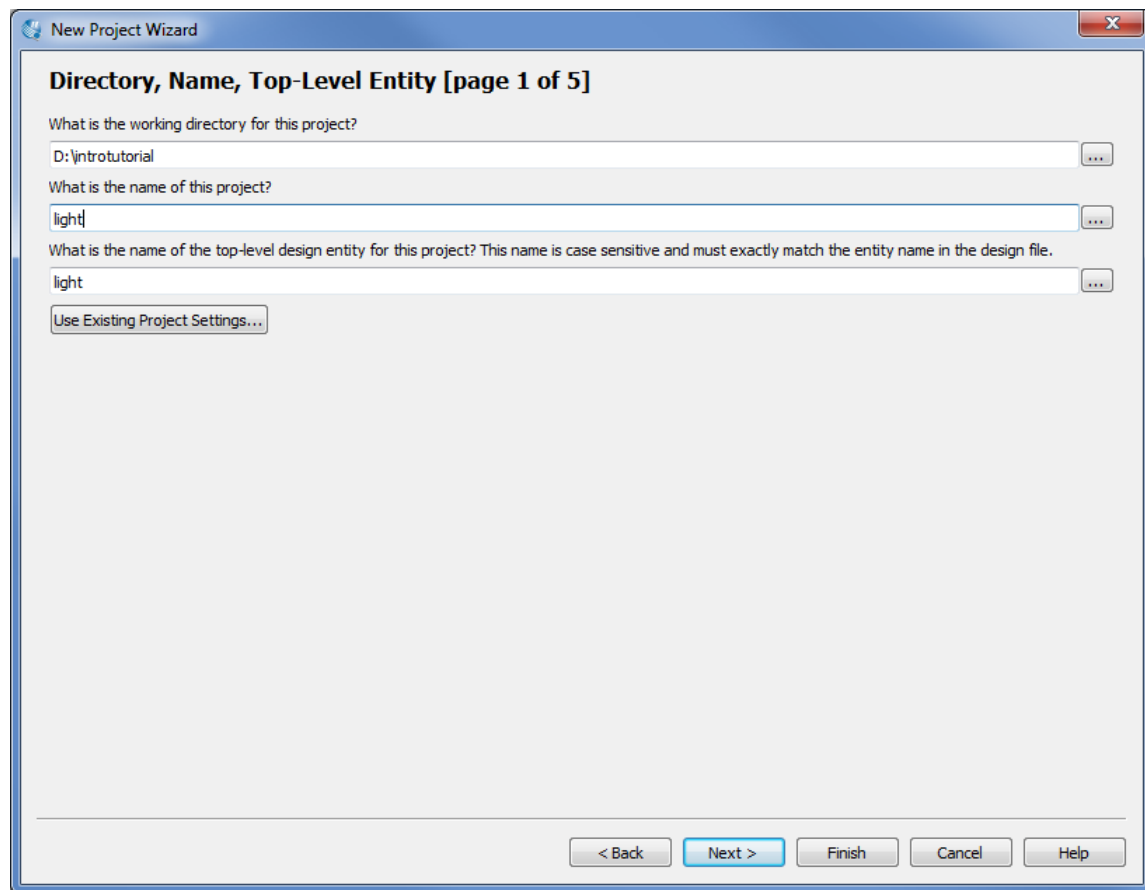
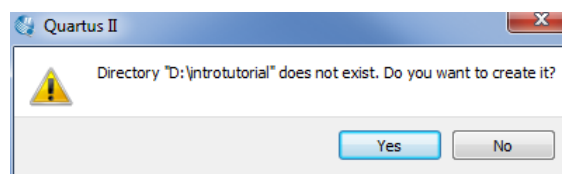
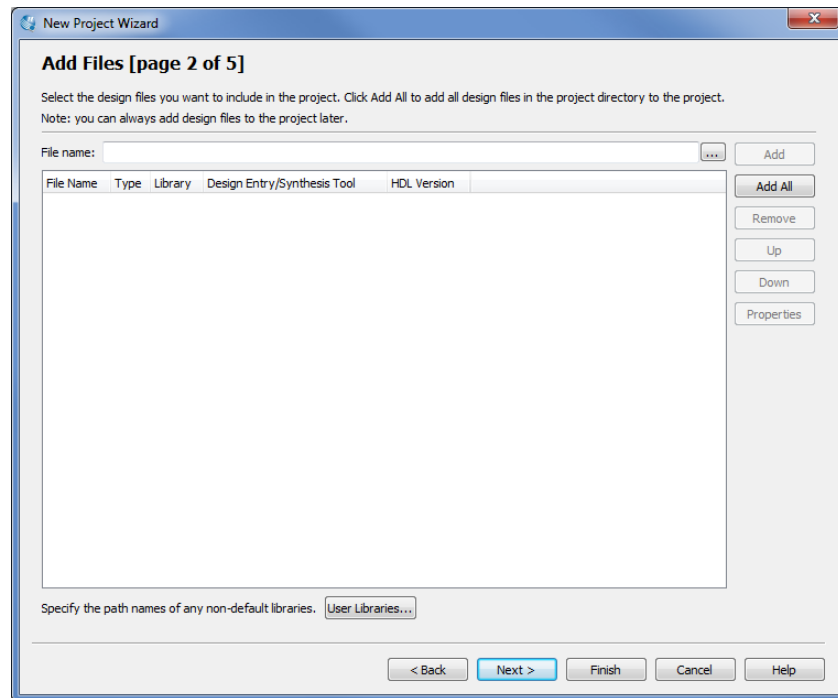

Figure 4. Creation of a new project.
Figure 5. Quartus II software can create a new directory for the project.
Figure 6. The wizard can include user-specified design files.
1. Select **File > New Project Wizard** and click **Next** to reach the window in Figure 4, which asks for the name and directory of the project.
2. Set the working directory to be *introtutorial*; of course, you can use some other directory name of your choice if you prefer. The project must have a name, which is usually the same as the top-level design entity that will be included in the project. Choose *light* as the name for both the project and the top-level entity, as shown in Figure 4. Press **Next**. Since we have not yet created the directory *introtutorial*, Quartus II software displays the pop-up box in Figure 5 asking if it should create the desired directory. Click **Yes**, which leads to the window in Figure 6.
box labeled File name type *light*, to match the name given in Figure 4, which was specified when the project was created. Put a checkmark in the box Add file to current project. Click Save, which puts the file into the directory *introtutorial* and leads to the Graphic Editor window displayed in Figure 14.